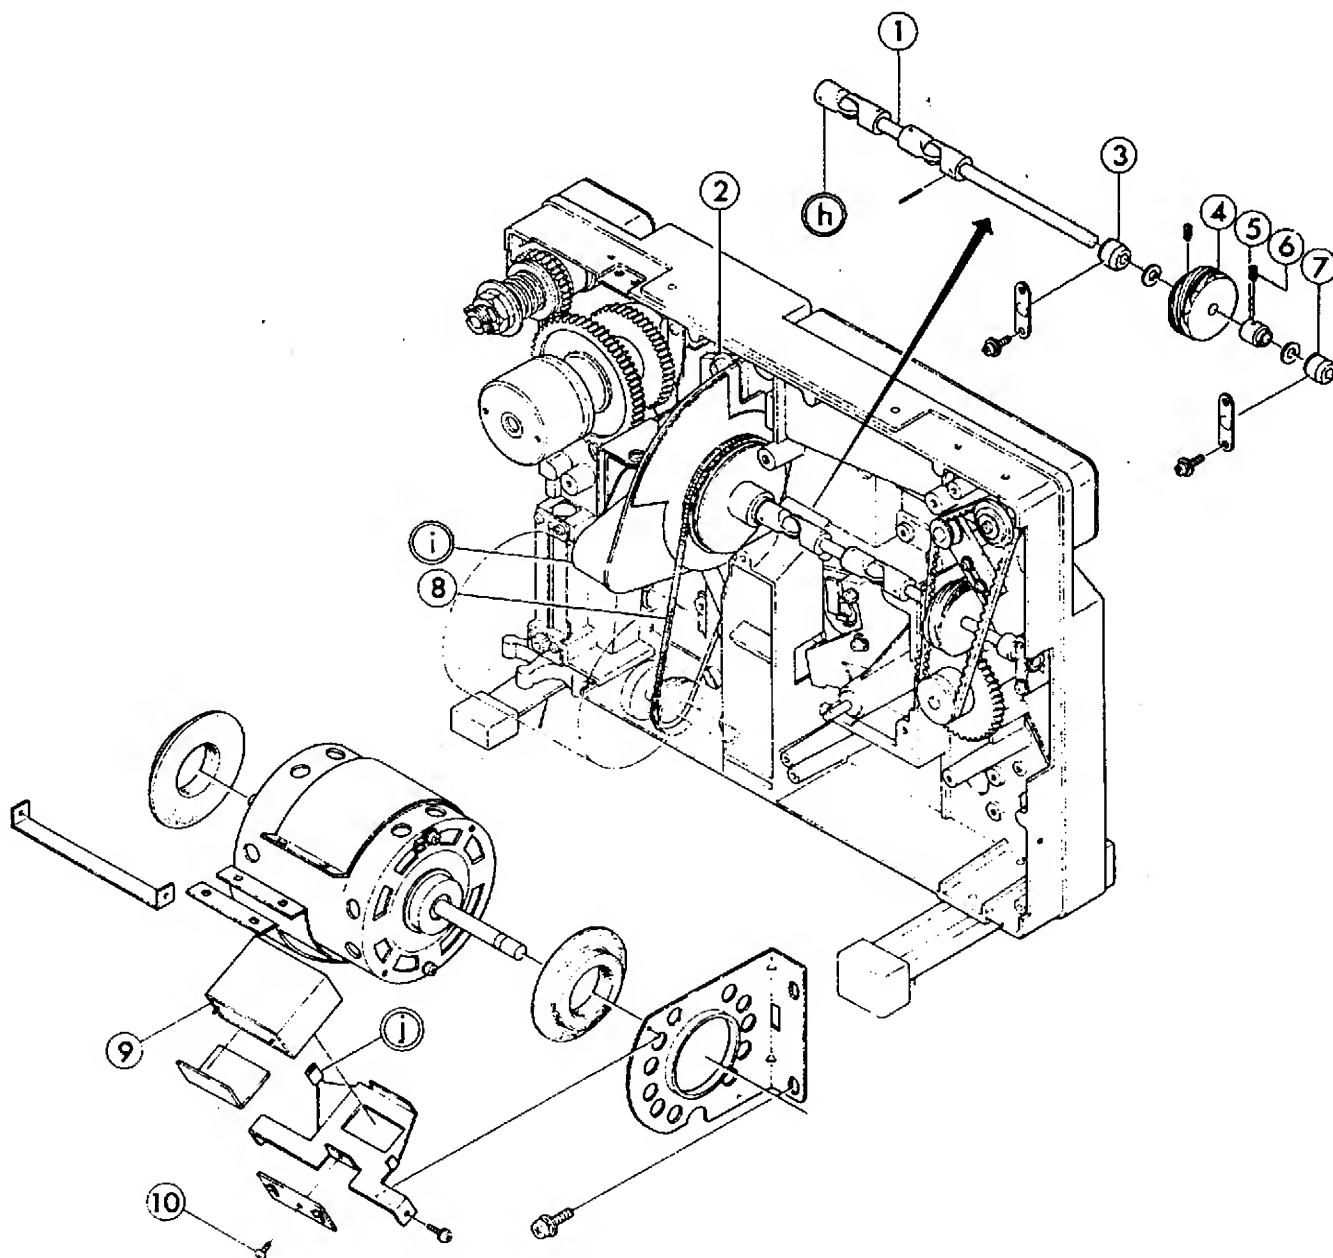

Fig. 11
- (2) After (j) in Fig. 11 is raised up, remove Fig. 11-9 by detaching Fig. 11-10.
- (4) Remove Fig. 11-8 from (i) in Fig. 11.
- (5) Set Fig. 1-22 at "9" position and remove (i) in Fig. 11 by detaching Fig. 11-2x2.